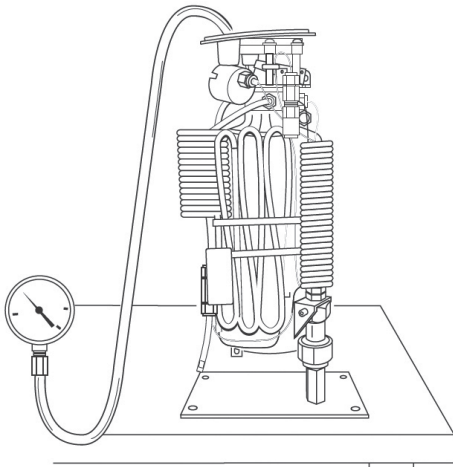

Figure 10: Pressure Gauge Connection
- 4) Connect the test pressure gauge to the oxygen outlet barbed fitting and set the flow control valve to its highest setting. Place the C1000/T in the portable test fixture (Figure 10).
- 3) Place the C1000/T in the portable test fixture (Figure 10).